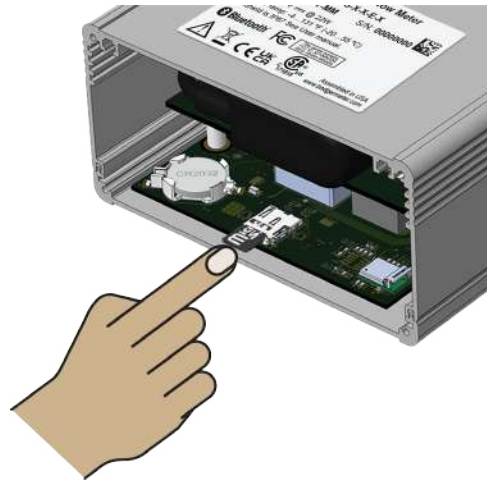

Figure 22: Insert new MicroSD card
- b. Insert a new card into the tray, pushing in the protruding end until it clicks into place, which locks the card to the tray. Refer to Figure 22 below.